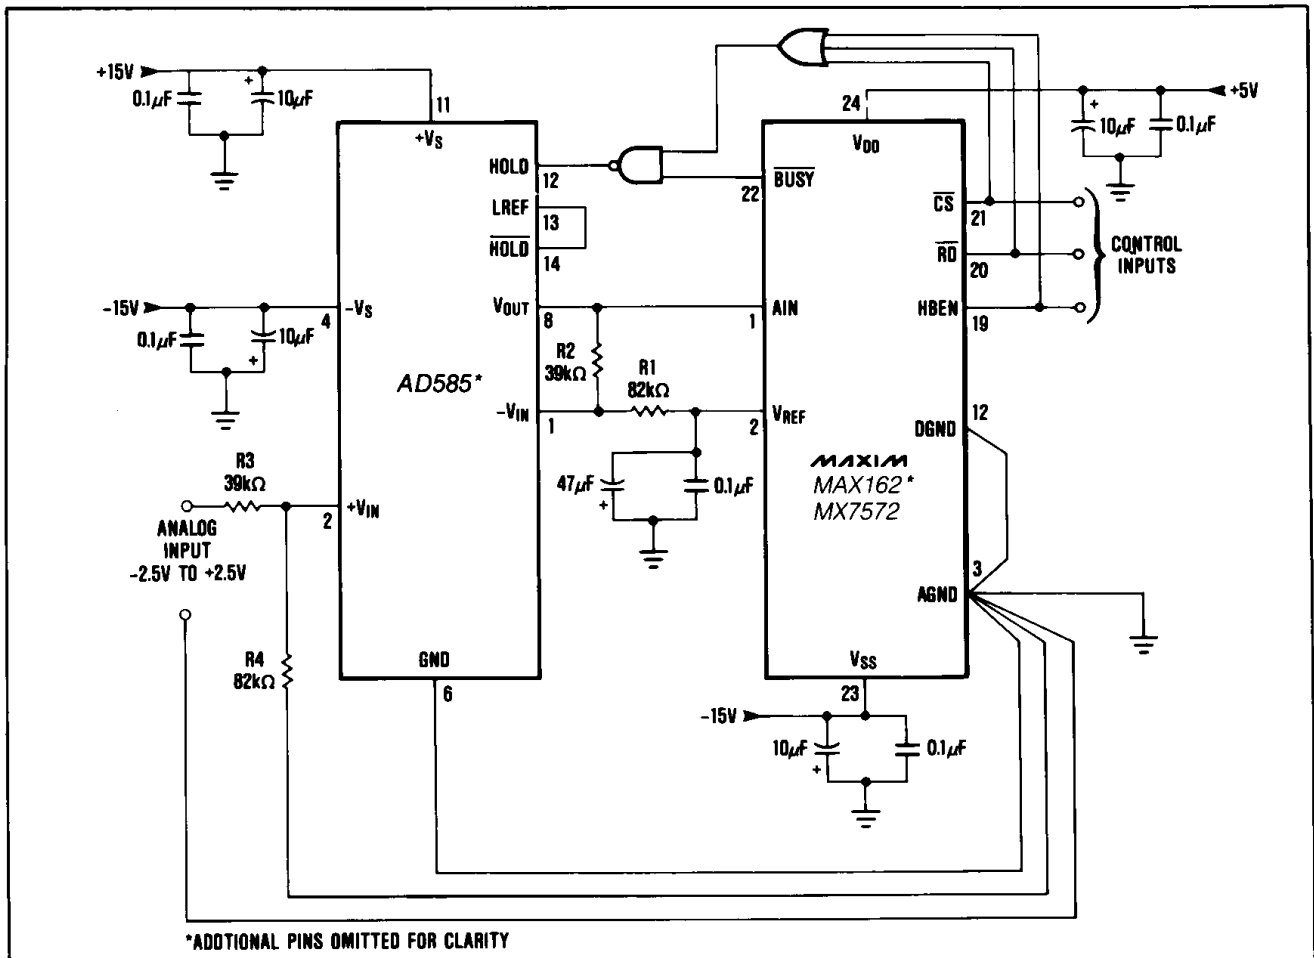

Figure 15. MX7572—AD585 Sample-and-Hold Interface
The  $\overline{\text{BUSY}}$  output from the MAX162/MX7572 may be used to provide the TRACK/HOLD signal to the sample-and-hold amplifier. However, since the ADC's DAC is switched at approximately the same time as the BUSY signal goes low, the switching transients at the output of the sample-and-hold caused by the DAC switching may result in code dependent errors due to the aperture delay of the sample-and-hold. A NAND gate may be used to ensure that the sample-and-hold switches to the hold mode BEFORE any disturbances as shown in Figures 15 & 16. The NAND gate solution works only if the width of the RD pulse is wider than the RD to BUSY delay in the MAX162/MX7572. If this is not the case, use a flip flop which is set by the falling edge of RD and reset by the rising edge of BUSY.
**MX7572** Figure 15 shows an AD585 sample-and-hold to MX7572 interface. The MX7572 RD input and BUSY output are used to put the AD585 in hold mode when a conversion is in progress. In this example the analog input range is  $\pm 2.5$ V but other voltage ranges can be configured differently as explained later.